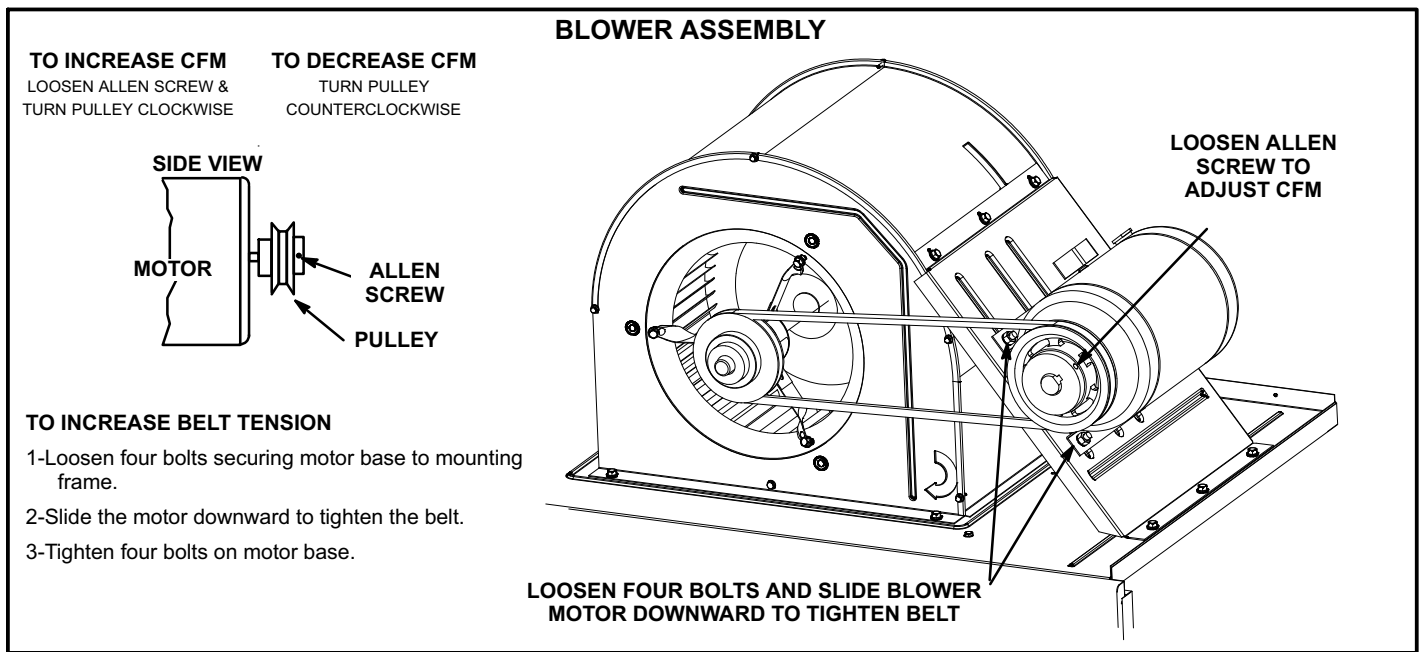

FIGURE 9
- 5- The blower RPM can be adjusted at the motor pulley. Loosen Allen screw and turn adjustable pulley clockwise to increase CFM. Turn counterclockwise to decrease CFM. See figure 9. Do not exceed minimum and maximum number of pulley turns as shown in table 5.
- 1- Loosen four bolts securing motor base to mounting frame. See figure 9.